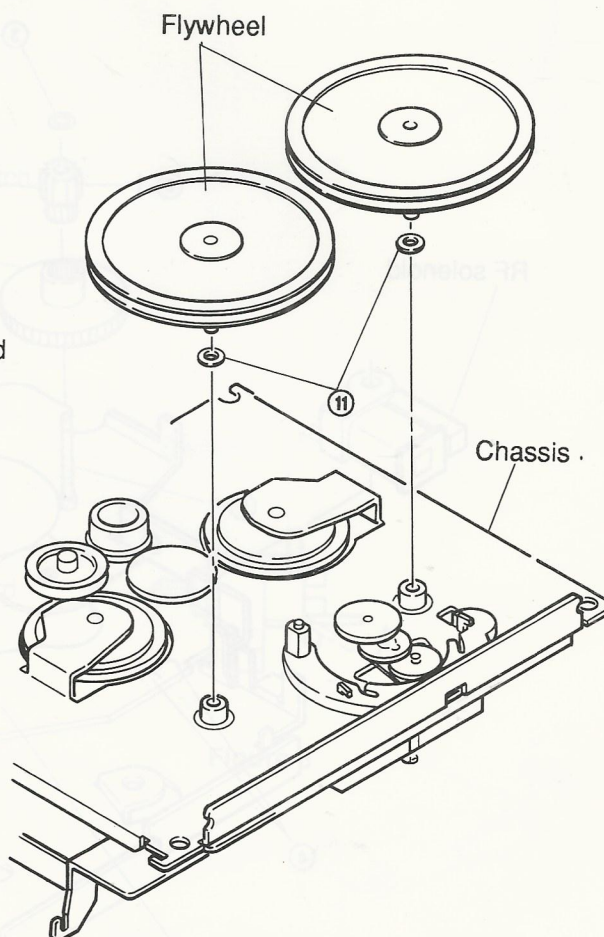

Figure 12
- (1) After removing the belt, pull out the two flywheels. Take care not to loose the polyslider washer (11) located between the flywheel and the chassis. (Refer to Figure 12.)
- (2) Fix the polyslider washer to the new flywheel and mount the flywheel to the chassis.